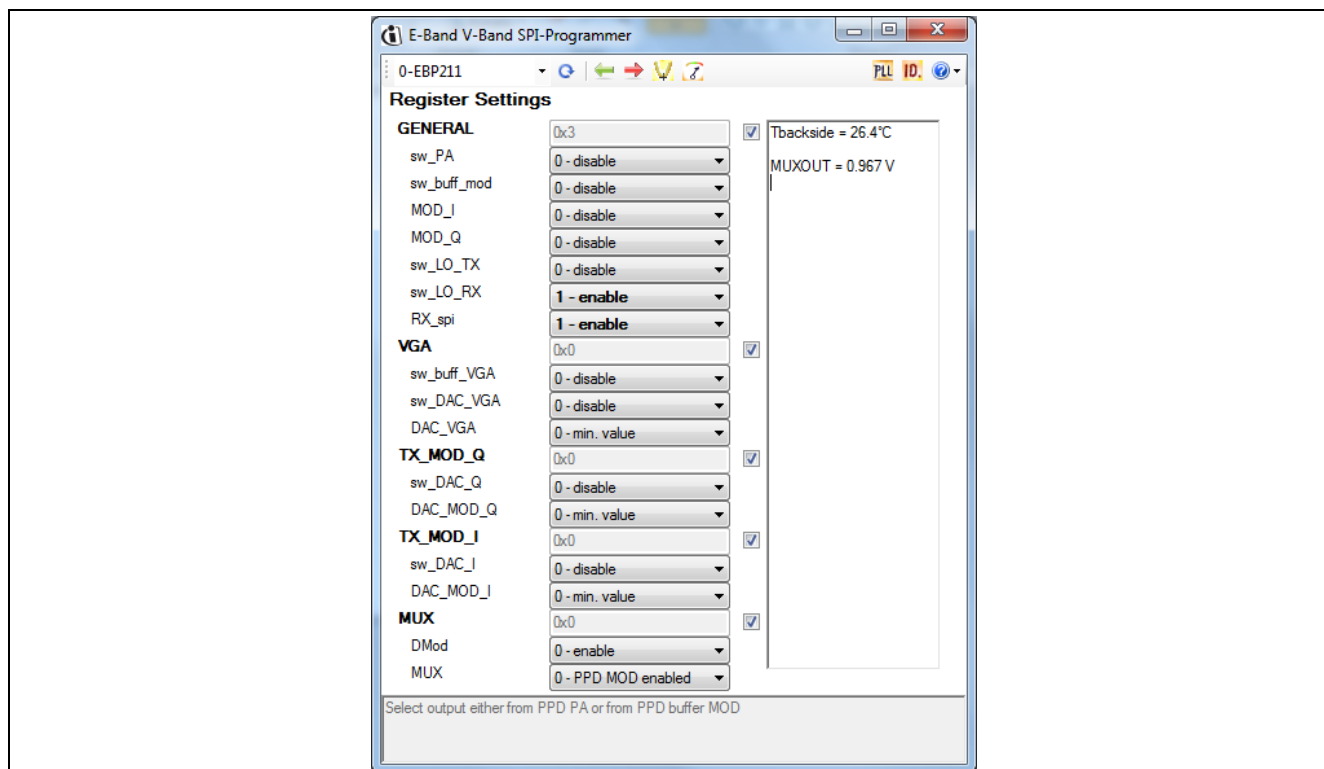

Figure 25 Typical Receiver Settings for BGT70
- 2) Then in the main window enable the registers as shown in **Figure 25**. The supply current will jump to 427 mA.